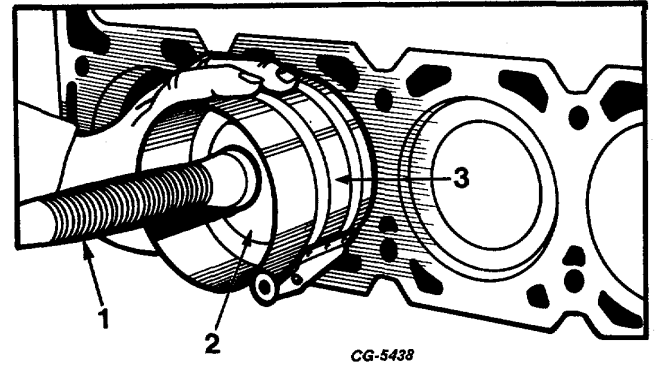

Fig. 146 Installation of Piston in Cylinder Block
12. Turn the crankshaft so No. 1 crankpin is at the top of its stroke. Coat the cylinder bores, crankshaft journals, pistons, piston pins and piston rings with engine oil. Insert the piston into the ring compressor and install the piston assembly into its respective cylinder bore, Figure 146. Make certain the odd numbers stamped on the connecting rods (1-3-5-7) are facing toward the right side of the cylinder block, while even numbers (2-4-6-8) are facing the left side of the cylinder block. Install the connecting rod bearings and caps, coating each bearing shell surface on both sides with engine oil. The numbered side of the cap must match and be on the numbered side of the rod.